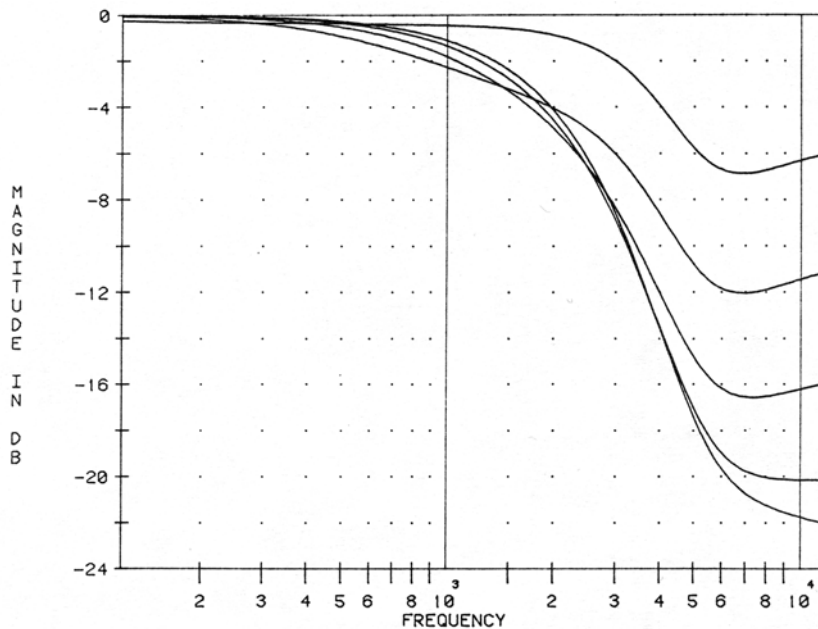

Figure 2-5: Frequency Response Curves as Function of ROLLOFF Control, Monitor Rolloff Filter Strapped for 18 dB/Octave
F) Set the ROLLOFF control of the Rolloff Filter to taste. See *Figure 2-5* on page 2-5.